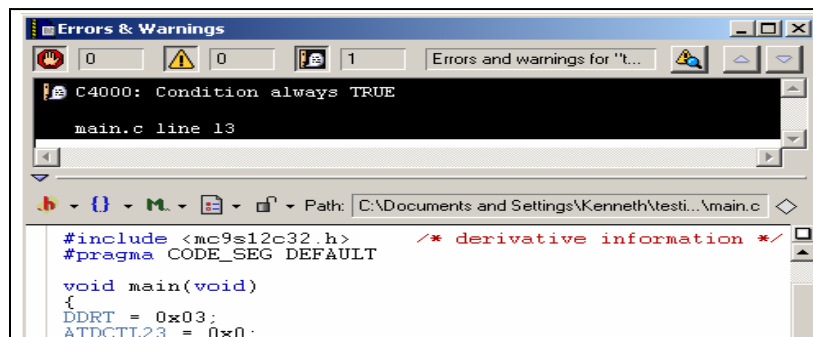

Figure 12
- **Figure 12**-This step will compile your code and display any errors in or warnings in the Errors & Warnings window as shown. For now **ignore the warnings**. If you have any errors, double check the code to make sure you have copied and pasted everything correctly
- **Figure 12-**On the new.mcp tab click on the debug button